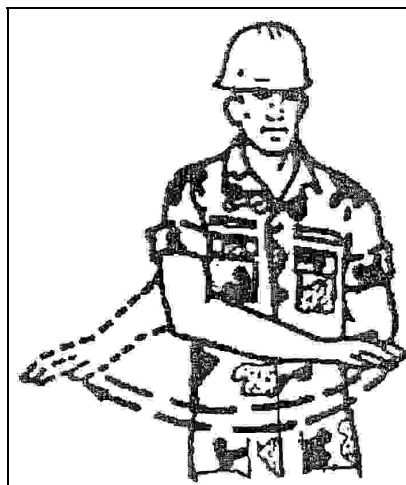

Figure 3-80. Slow Down
2. Use the signal to indicate SLOW DOWN (see Figure 3-80).